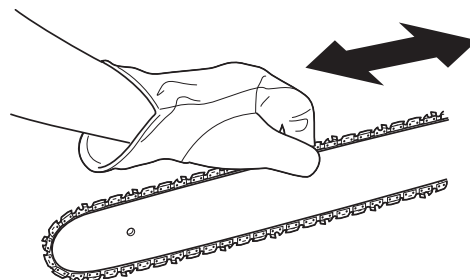

Fig. 27
- Wearing protective gloves, hold the guide bar tip up and move the saw chain back and forth along the guide bar (Fig. 27). Make sure the saw chain moves freely and is in proper mesh with the sprocket. If the saw chain does not move easily, slowly turn the chain-tensioning screw counterclockwise to loosen the saw chain.